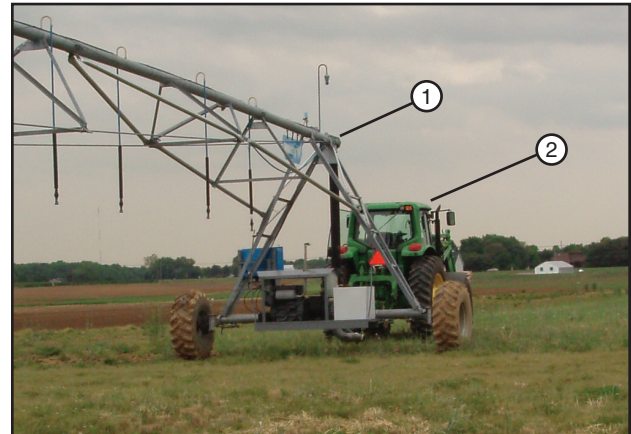

Figure 85-2 1. 2 Wheel Linear 2. Towing Unit
4. Attach the tongue to the towing unit. See figure 85-2.